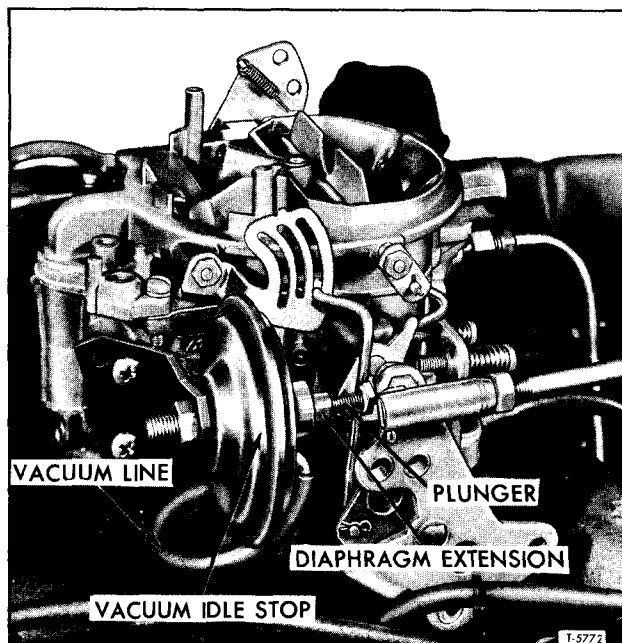

Figure 13—Vacuum Idle Stop Installation
3. Disconnect and plug vacuum line to vacuum idle stop (fig. 13).
VACUUM IDLE STOP (Refer to Fig. 13)